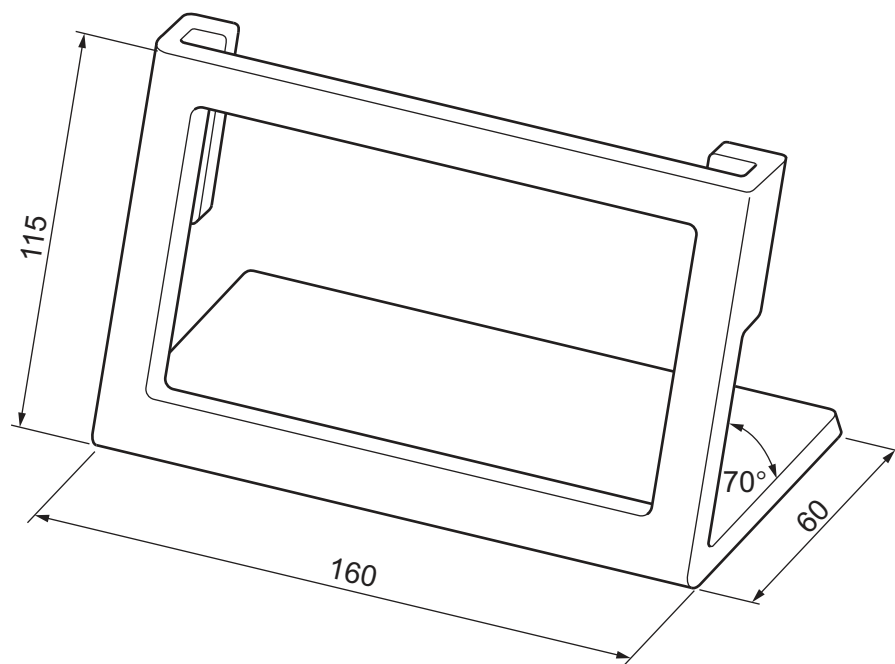

Figure 1.1
- 1 Figure 1.1 shows details of a photograph holder.
- (a) State a suitable material for the photograph holder shown in Figure 1.1.
- (b) Use sketches and notes to show how you would make **one** photograph holder, as shown in Figure 1.1, in a school workshop.